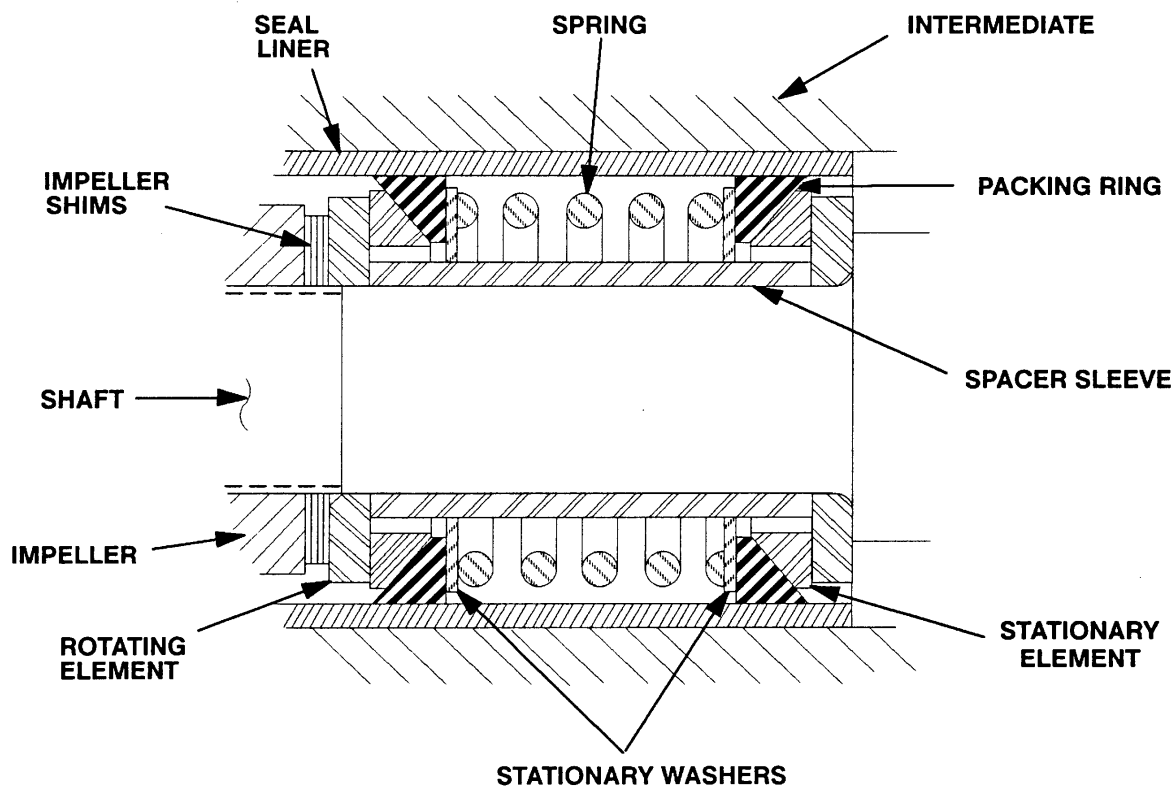

Figure 4. GS625 Seal Assembly
To ease installation of the seal, lubricate the packing rings and seal liner (6) with water or a very **small** amount of oil, and apply a drop of light lubricating oil on the finished faces. Assemble the seal as follows, (see Figure 4).